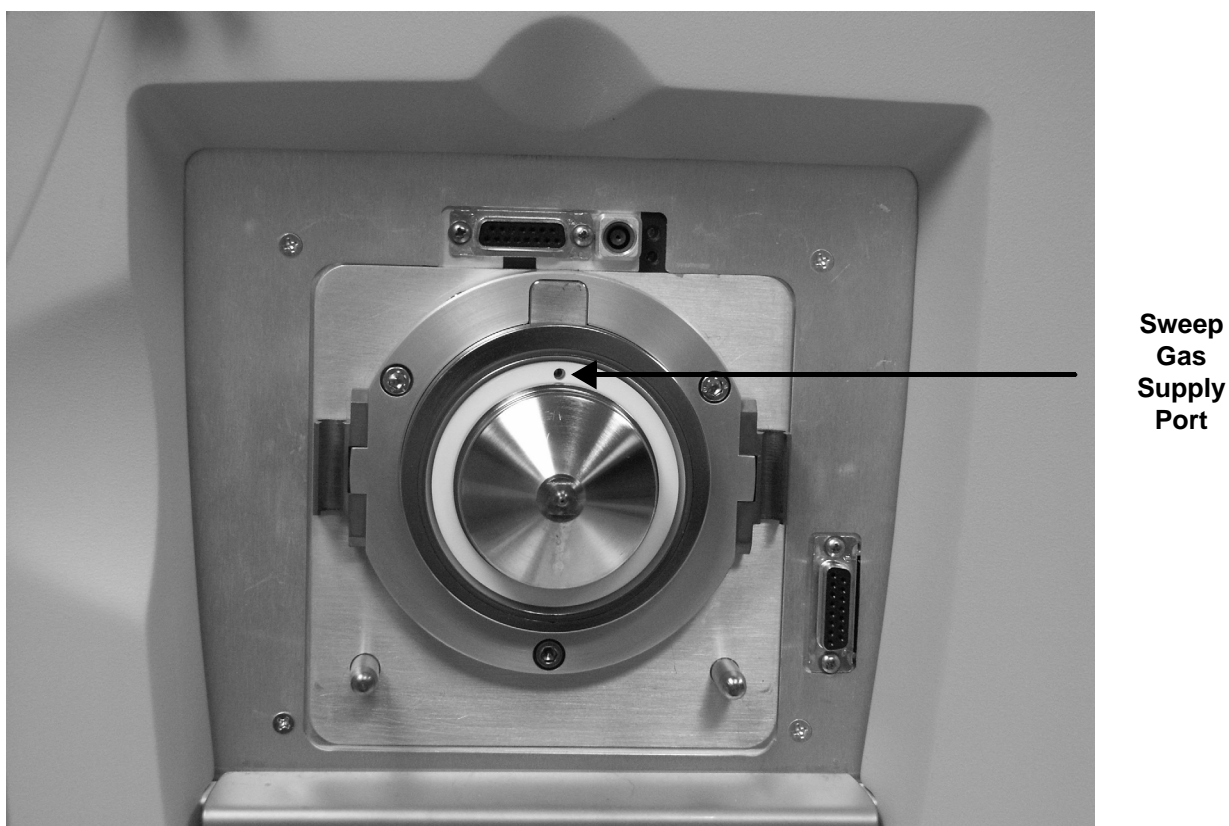
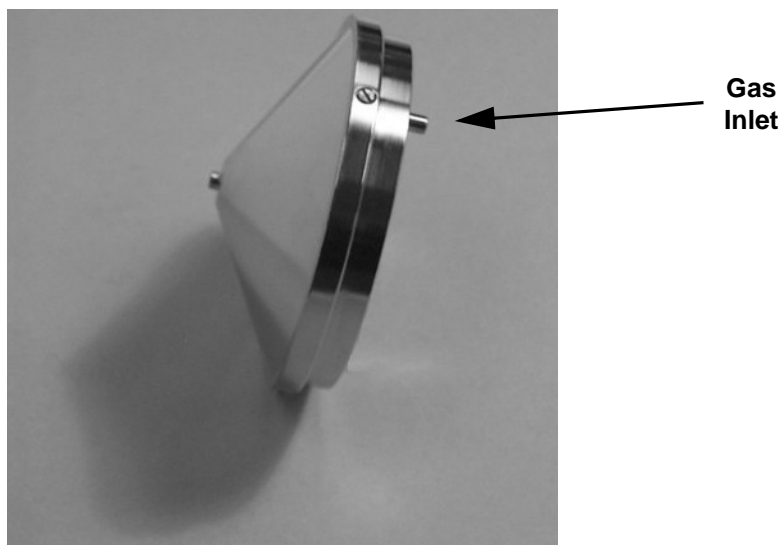

Figure 2-5. Sweep gas supply port in the API cone seal
Figure 2-6. Ion sweep cone, showing the gas inlet
2. Note the location of the sweep gas supply port in the API cone seal. The gas inlet on the ion sweep cone is placed in this port. See Figure 2-5 and Figure 2-6.